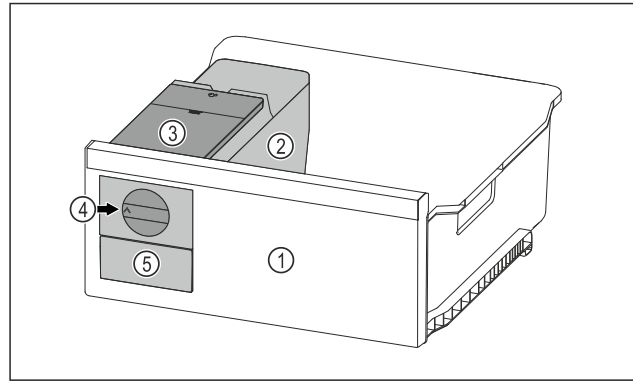

*Fig. 68*
- Guide drawer in at an angle around the stoppers *Fig. 68 (1)*.